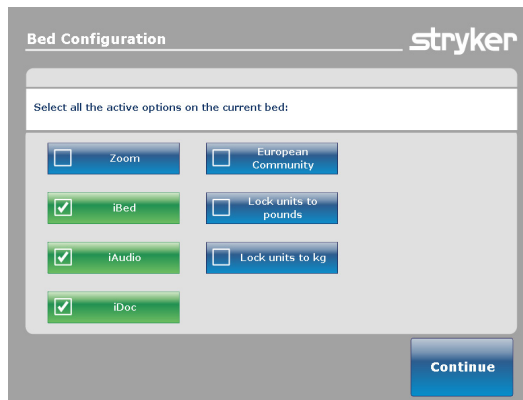

Figure 30: Bed Options screen
1. Press and hold the **HOB 30** button and the **BRAKE** button at the same time for 5 seconds, then release both buttons. The Bed Options screen (Figure 30) will be displayed.
**NOTE:** In Figure 30, the options selected are iBed, iAudio and iDoc. All of the options selected will turn green.